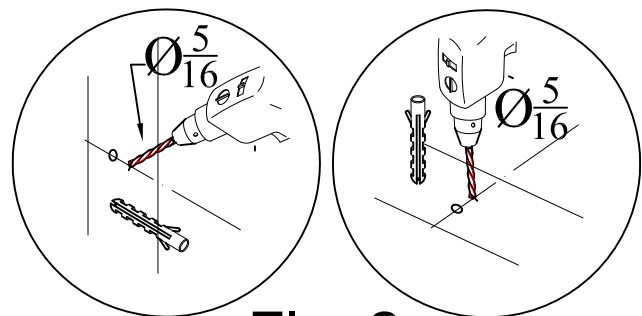

Fig. 2
2. Using the appropriate drill bit for your wall and floor surface drill each hole location with a  $\frac{5}{16}$ " diameter drill bit. Install the plastic wall anchors provided into the drilled holes. See Fig.2 for details